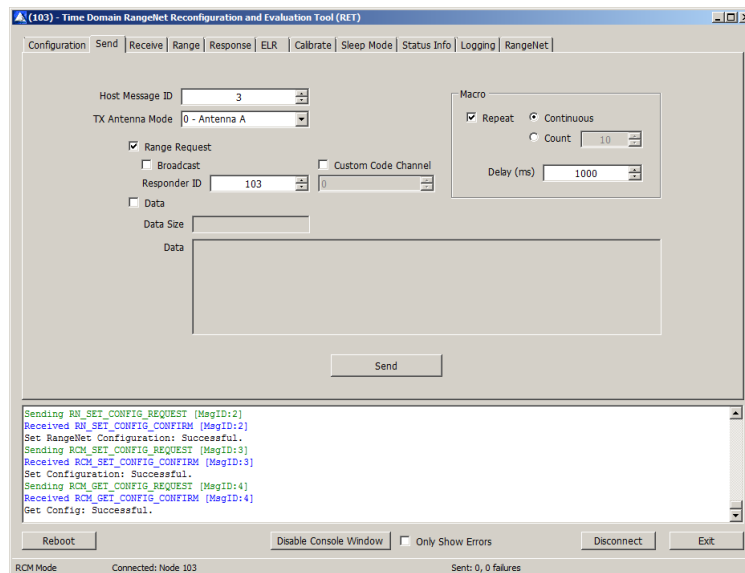

Fig. 11: RangeNet RET Send Tab
3. In the RangeNet RET software application, select the Send Tab (**Figure 11**).